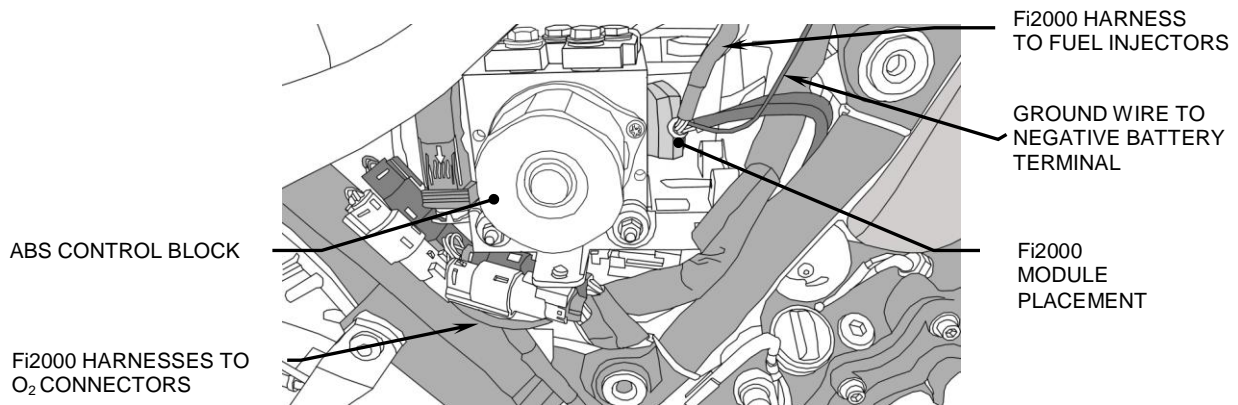

FIGURE 2
4. Place the Fi2000 case and harness on right side of the motorcycle between the large wire harness and ABS control block, under the right side panel area, see Figure 2. Route the main fuel injector harness and ground wire under the right frame rail and upward to under seat area. Open the plastic wire loom sheath by removing cutting the black tape securing it closed. Place the injector harness inside of it, towards the right side, route connectors forward to area between cylinder heads, see Figure 3.
8. Attach the ground wire from the Fi2000 to the negative battery terminal. Velcro the Fi2000 case to the side of the ABS control block, see Figure 2.